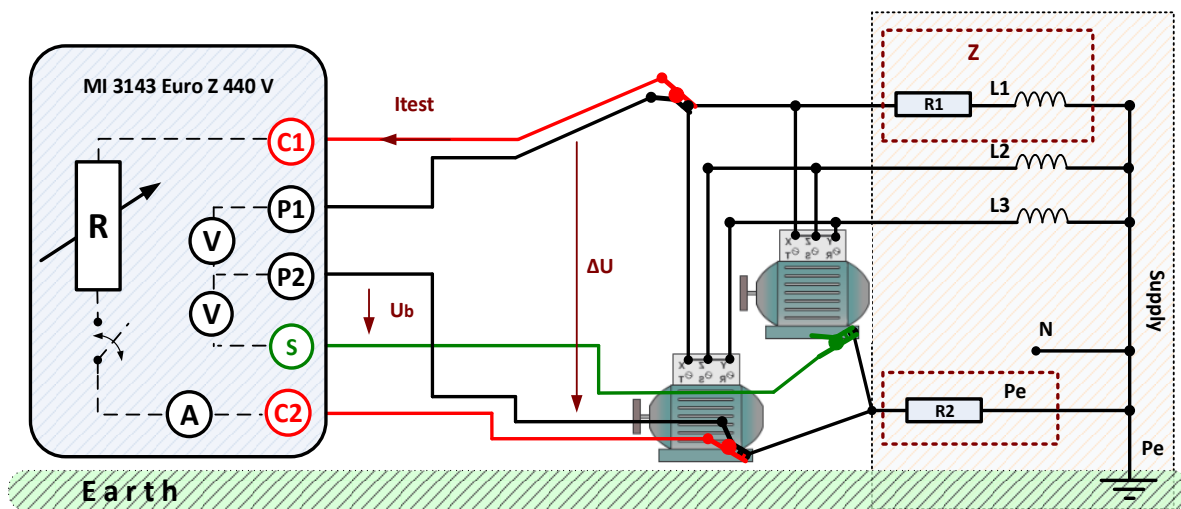

Figure 6.4: Z loop mΩ measurement with enabled U_b measurement
- Check for correct C1, P1, P2, C2 and S terminals connection! Refer to Figure 6.4 for reference.